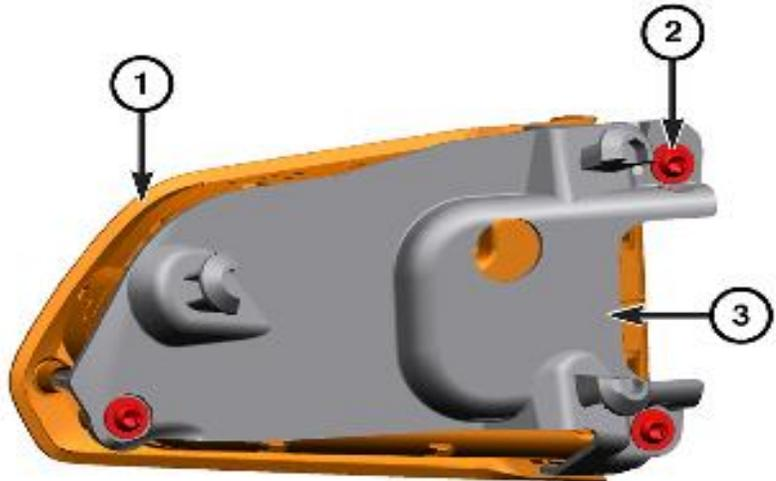

Figure 4 – Speed Control Switch Bracket
12. Remove the fasteners (2) and separate the speed control switches (1) from the switch bracket (3) (Figure 4).